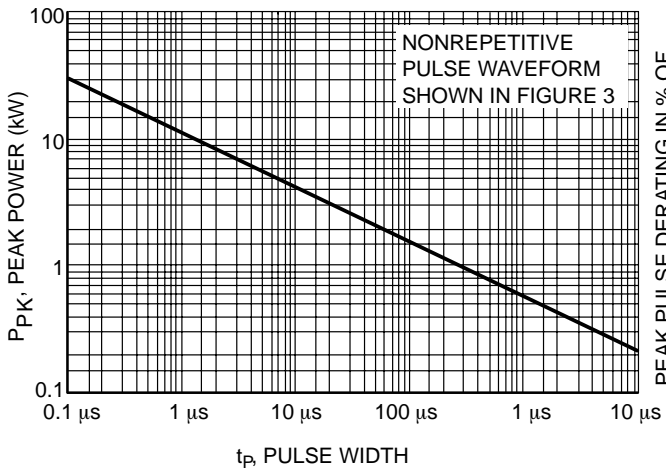
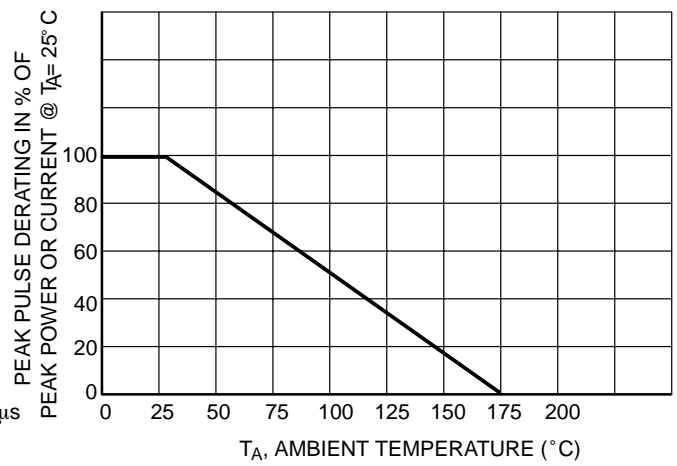
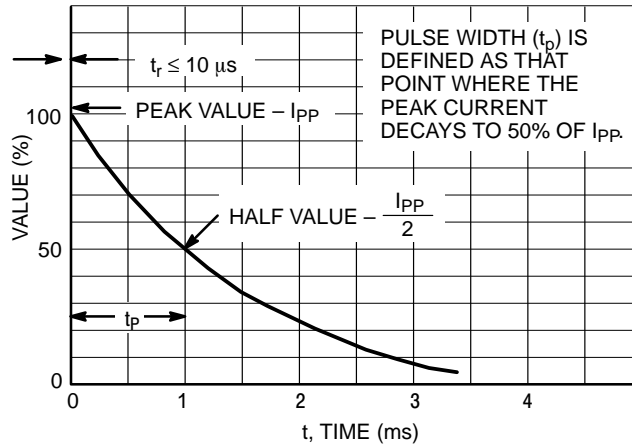
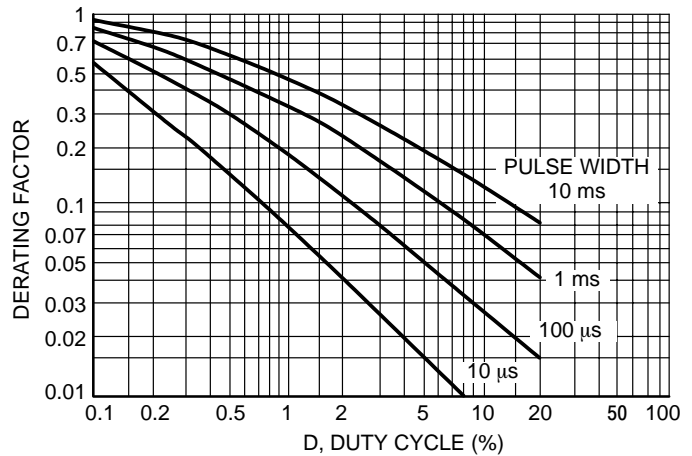

Figure 1. Pulse Rating Curve
Figure 2. Pulse Derating Curve
Figure 3. Pulse Waveform
Figure 5. Typical Derating Factor for Duty Cycle
1. Nonrepetitive current pulse per Figure 3 and derated above $T_A = 25^\circ\text{C}$ per Figure 2.
3. Surge current waveform per Figure 3 and derate per Figures 1 and 2.
The data of Figure 1 applies for non-repetitive conditions and at a lead temperature of 25°C. If the duty cycle increases, the peak power must be reduced as indicated by the curves of Figure 5. Average power must be derated as the lead or ambient temperature rises above 25°C. The average power derating curve normally given on data sheets may be normalized and used for this purpose.
At first glance the derating curves of Figure 5 appear to be in error as the 10 ms pulse has a higher derating factor than the 10 μ s pulse. However, when the derating factor for a given pulse of Figure 5 is multiplied by the peak power value of Figure 1 for the same pulse, the results follow the expected trend.